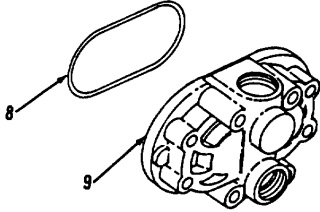

Figure 10-15.
- 83. Install new preformed packing (8) on back plate (9, Figure 10-15).